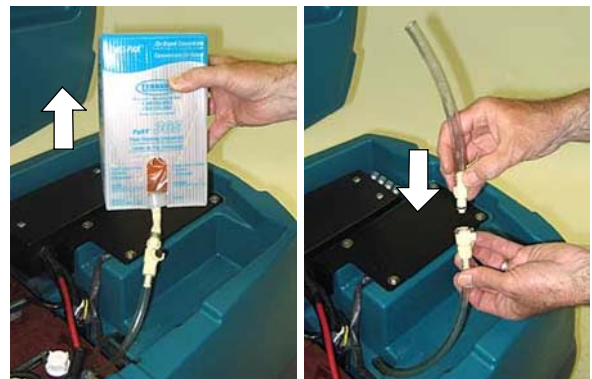

FIG. 86
1. Remove the FaST-PAK carton and connect the valve coupling and 15cm hose (purchased parts) to the supply hose (Figure 86).